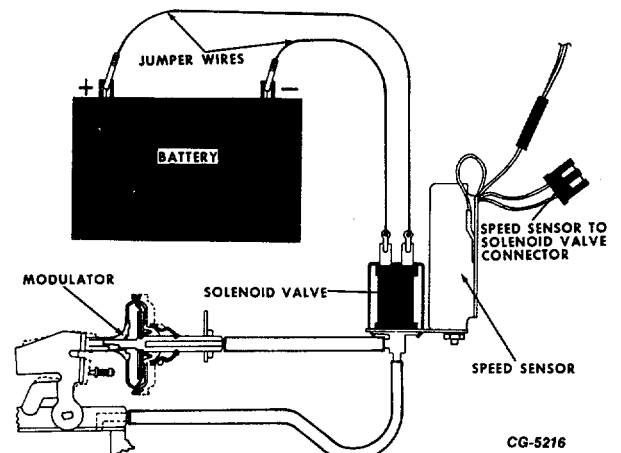

Fig. 62 Jumper Wires from Battery to Solenoid Valve Terminals
- (1) Operate engine at any condition.
- (2) With wiring harness disconnected from solenoid valve, modulator must be in retracted position.
- (3) With jumper wires from positive terminal of battery and from ground connected to solenoid valve terminals (Fig. 62), modulator must be in extended position.
- (4) If modulator does not function properly, solenoid valve is faulty and must be replaced. (The solenoid valve and speed sensor are sold as one assembly.)